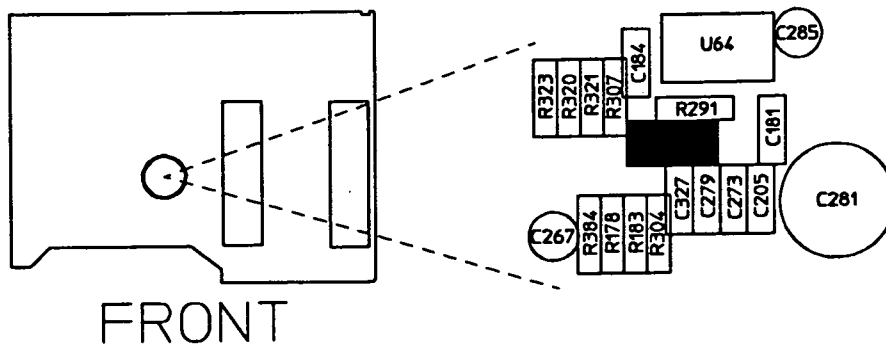

Figure 2-10. A1R306 Adjustment Location
7. See figure 2-10 for the location of A1R306.